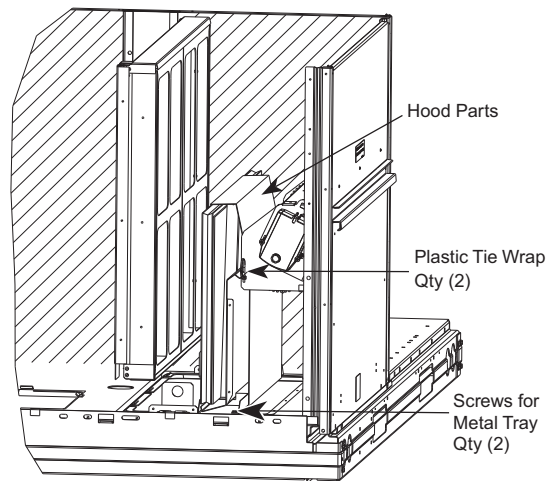

Fig. 11 — Economizer Hood Package Location
2. Locate the (2) screws holding the metal tray to the basepan and remove. Locate and cut the (2) plastic tie-wraps securing the assembly to the damper (see Fig. 11). Be careful to not damage any wiring or cut tie-wraps securing any wiring. The indoor coil access panel will be used as the top of the damper hood. Remove the screws along the sides and bottom of the indoor coil access panel.